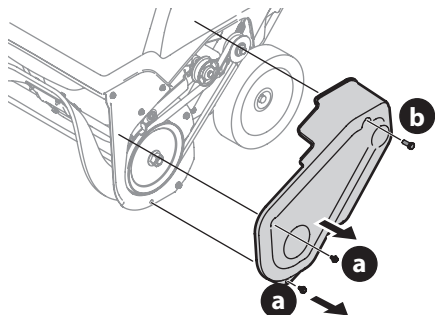

Figure 28
4. Remove the belt cover by removing the two hex washer screws (a) and one hex lock screw (b) that secure it to the frame (Figure 28).